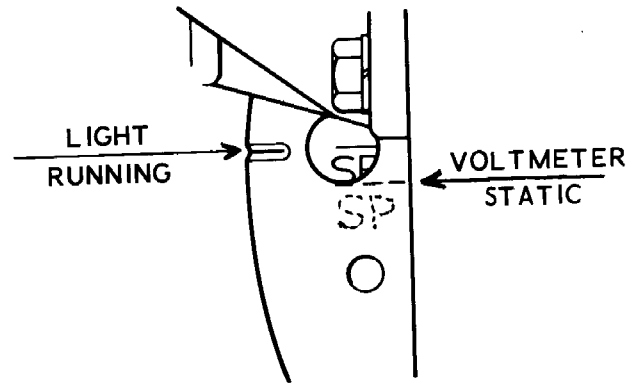

Figure 13
1. When the running timing is checked with a timing light, the SP mark must be centered in the timing hole, Figure 13. If not, adjust the breaker points as described above.
4. You will be on compression stroke and near SP timing mark. Rotate engine until the SP mark lines up as shown by dotted line SP mark in Figure 13.